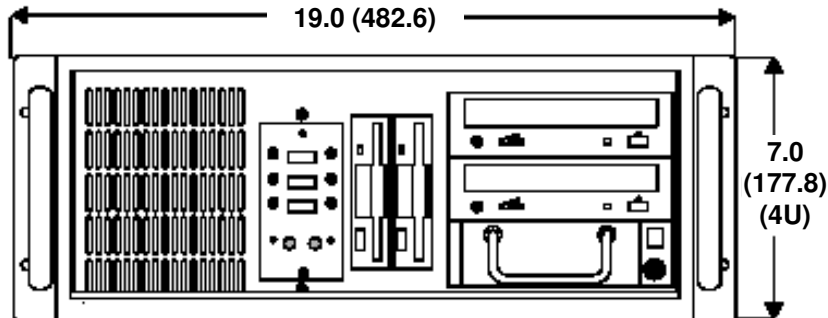
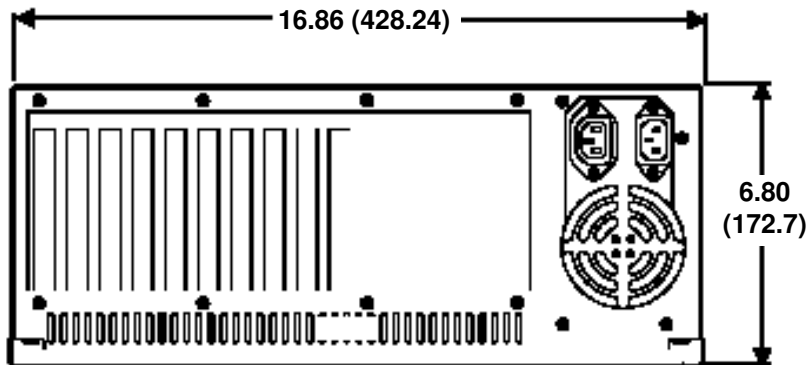
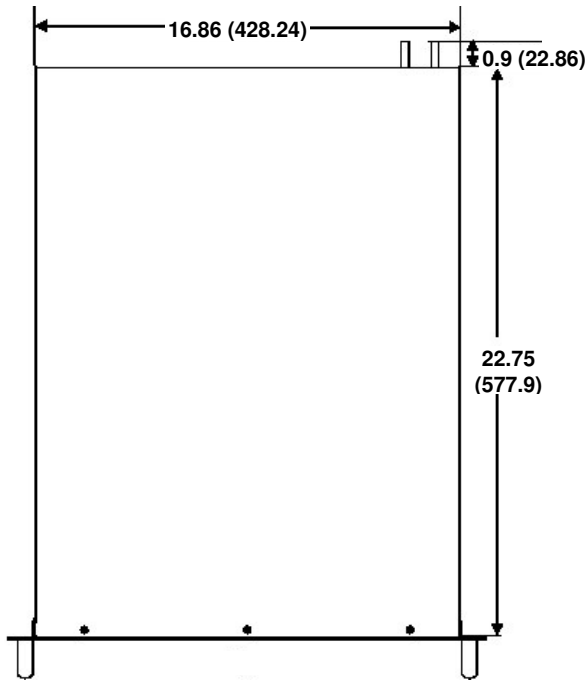

Figure 2-2. Front View Dimensions
Figure 2-3. Rear View Dimensions
Figure 2-8. Top View Dimensions
Figures Figure 2-1, Figure 2-2, and Figure 2-3 show the unit box dimensions for the 1600 series. Figures Figure 2-4 through Figure 2-8 show unique unit dimensions for the 1612, 1613, and 1614. Optional slide rails and wall or shelf mounting kits are available. All of the following dimensions are in inches (mm).
3. Remove the two screws from the hold down bracket and remove the hold down bracket (see Figure 2-8).